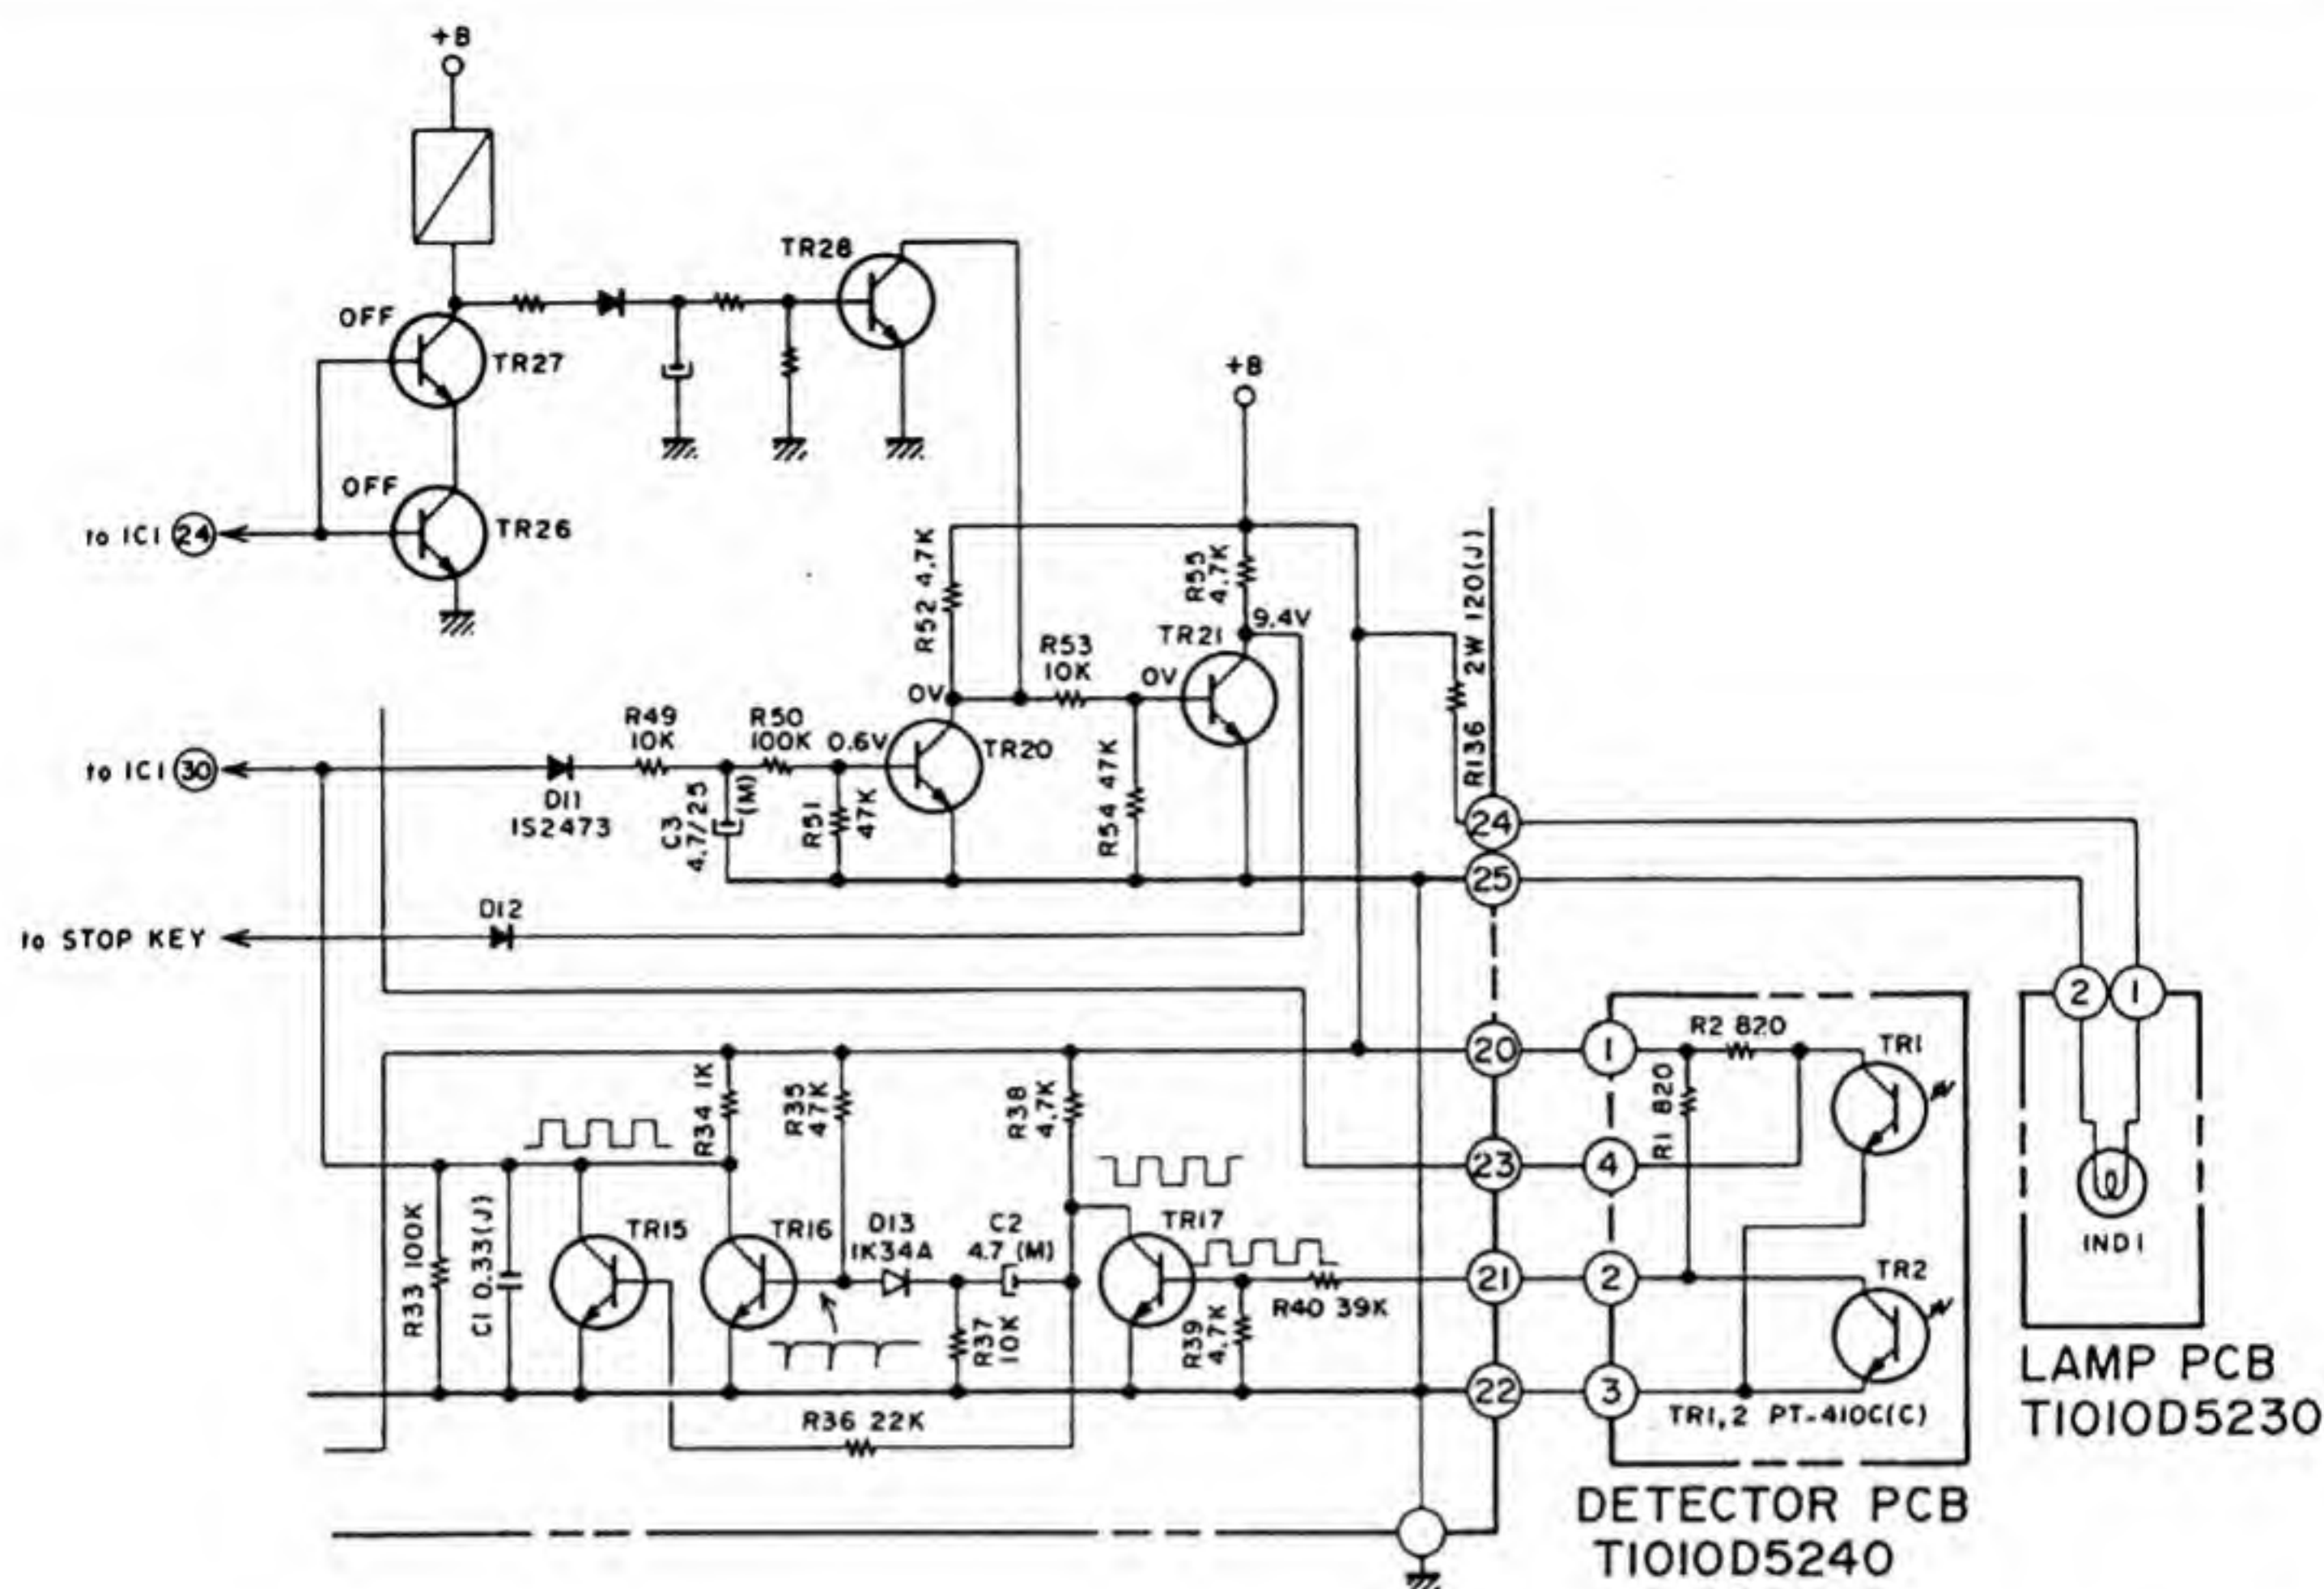

Fig. 23
2) Auto Stop Circuit (Refer to Figs. 23, 24)